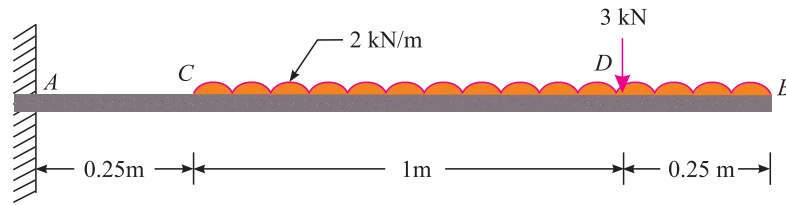

Fig. 13.11
5. A cantilever 1.5 m long is loaded with a uniformly distributed load of 2 kN/m and a point load of 3 kN as shown in Fig. 13.11